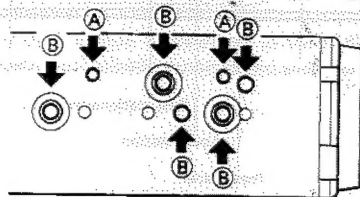

Fig. 3
For the screw holes marked (A) in Fig. 3, use 4×8 mm screws. For the screw holes marked (B), use 5×8 mm screws. (Fig. 4)